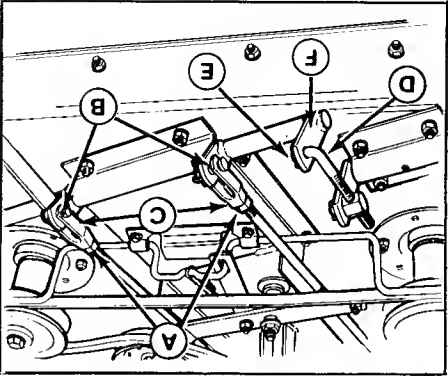

Figure 33. Leveling Mower
5. Remove the cotter pin (E, figure 33) which secures the mower levelling rod (D). Shorten the rod (D) to raise the left side of the mower or lengthen the rod to lower the left side of the mower. Put the levelling rod back in its hole and recheck the measurements. If the mower is level, install the cotter pin (E).